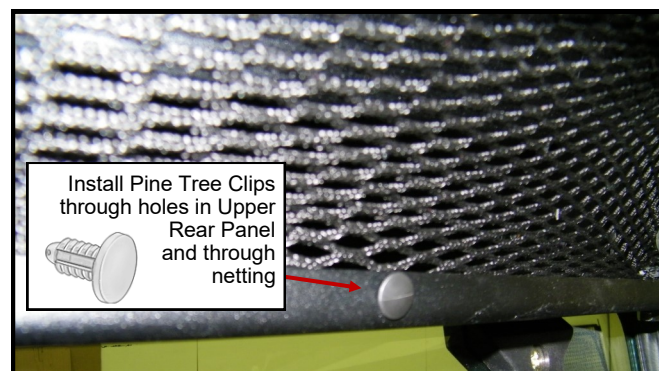

Figure 10.3: Cargo net center clips
- 10.3 Stretch the net to the bottom flange of the Upper Rear Panel and push a plastic pine tree clip through the holes in the flange and the bottom of the net **(Figure 10.3)**.